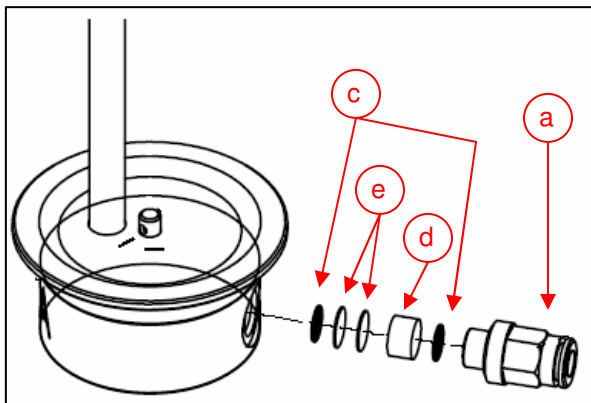

Fig. 9 - Filter in Tank 70 – 250 µm
- Pull out the pressured air hoses from the push-in connectors (fig. 9 and 10 a).
- Unscrew the push in connector (fig. 9 and 10 a) from the mixing chamber.
- Remove the filter set (fig. 9+10 b, c, d, e).
- First, lay a steel sieve (fig. 9 +10 c) into the mixing chamber.
- Then add 4 (25-70 $\mu$ m Tank) respectively 2 (70-250 $\mu$ m Tank) fine fleece filter (fig 9+10 e). The yellow marked side faces to the center of the mixing chamber
- Now add 1 rough textured filter (fig. 9+10 d).
- Finally, ad another steel sieve (fig. 9+10 c).
- Screw the push in connector (fig. 9 and 10 a) into the mixing chamber.
- Push the pressured air hoses into the push-in connectors (fig. 9 and 10 a).